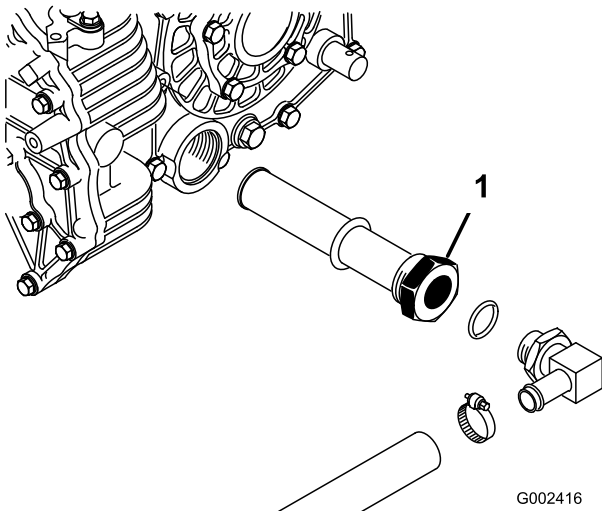

Figure 60
3. Note orientation of hydraulic hose and 90 degree fitting connected to strainer on side of reservoir (Figure 60). Remove hydraulic hose and 90 degree fitting.